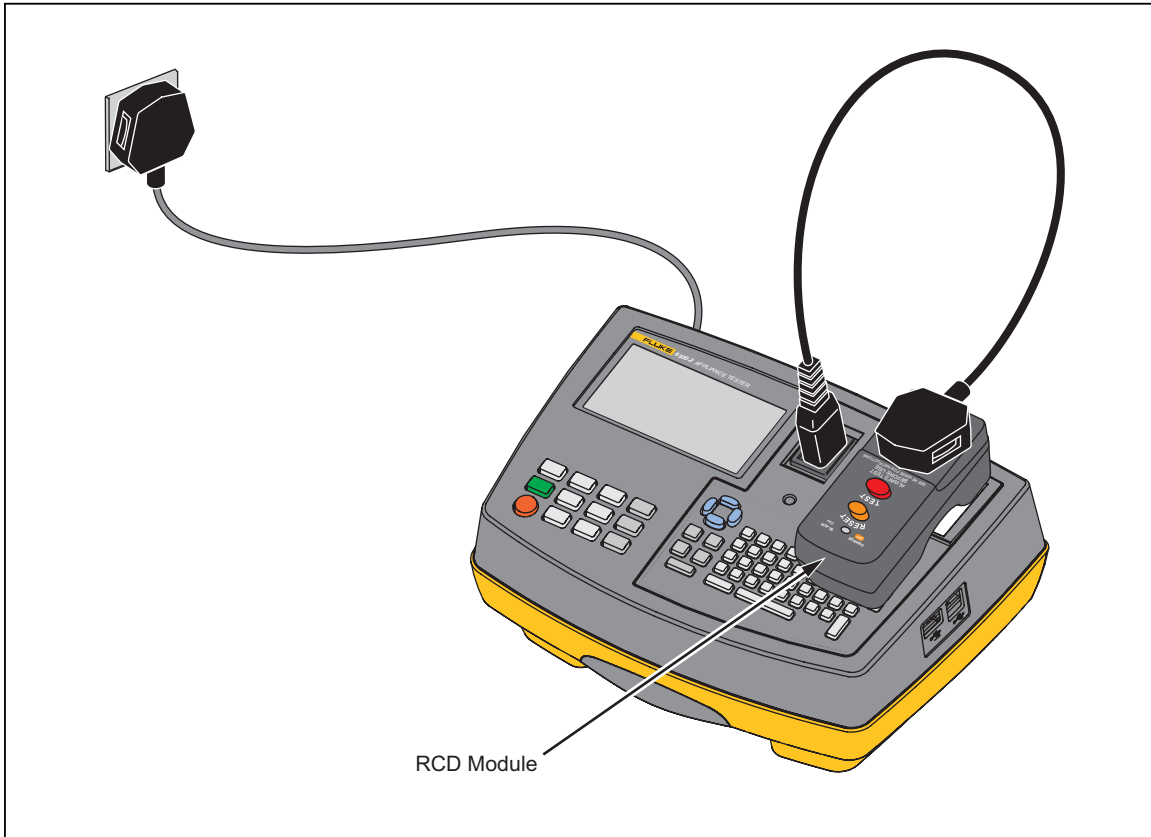

Figure 9. General-Purpose AC RCD Module Test
2. Connect output of the RCD module to IEC connector with the IEC lead. See Figure 9.